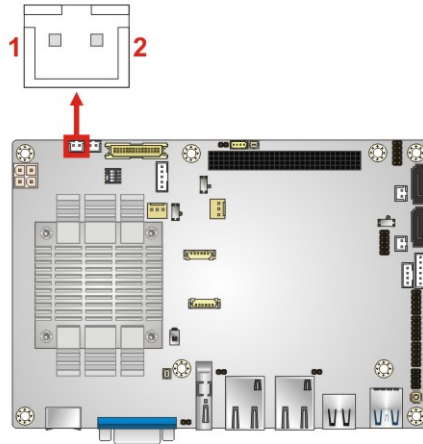

Figure 3-22: Reset Button Connector Location
**CN Location:** See **Figure 3-22**